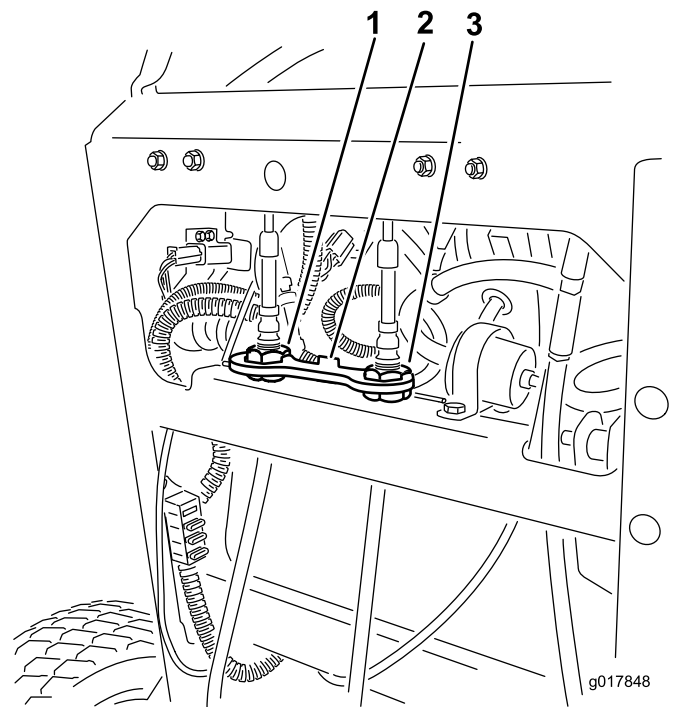

Figure 80
6. Install the cable lock onto the cable-adjusting nuts to secure the adjustment (Figure 80).